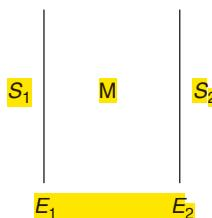

Figure 12 Membrane in ion-selective electrode.
6. **Ion-selective electrode (ISE):** In this electrode, a suitable non-porous membrane separates two solutions, containing similar ions of different concentrations, and acts as an electrochemical membrane. The remarkable property of such electrodes is that a potential difference is developed on either side of the membrane (Figure 12).